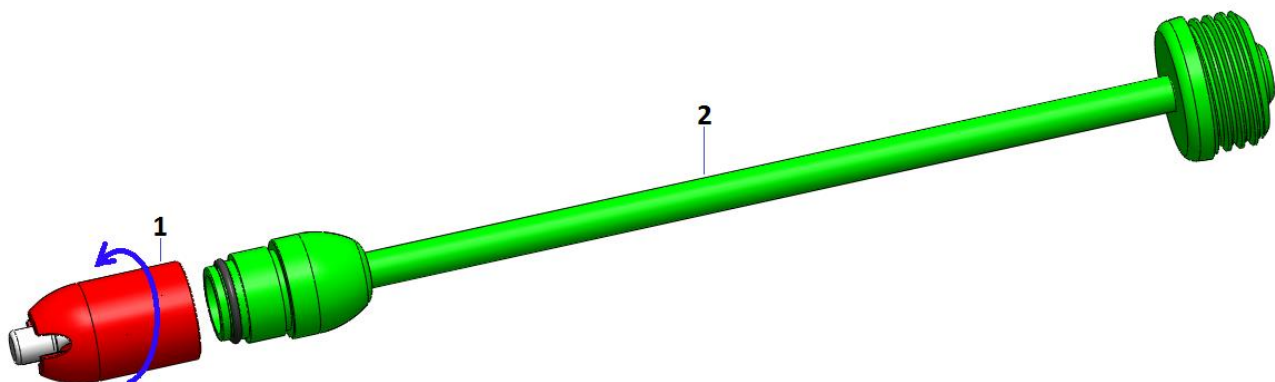
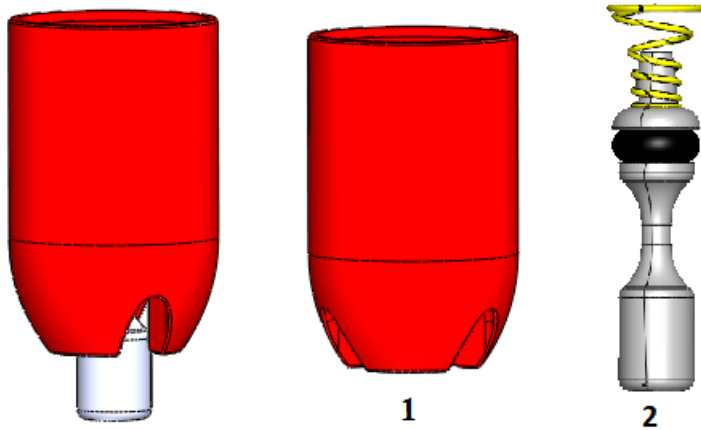

Figure 5
Figure 6
In order to separate the valve (1) and the pipe (2) in Figure 5, turn the valve counter clockwise. Be careful as the Valve Piston will easily fall out (See item 2, Figure 6).
The valve is made of two main parts (see Figure 6): Valve Housing (1) and Valve Piston (2).